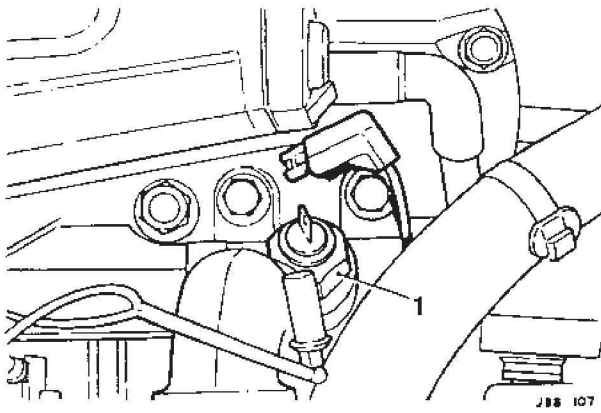
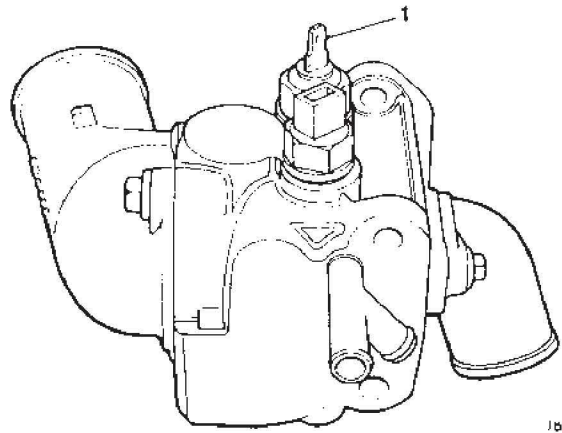

Fig 1
Fig 2
- Disconnect the transmitter feed wire, unscrew and remove the transmitter (V12 see Fig 1, 4.0L see Fig 2).